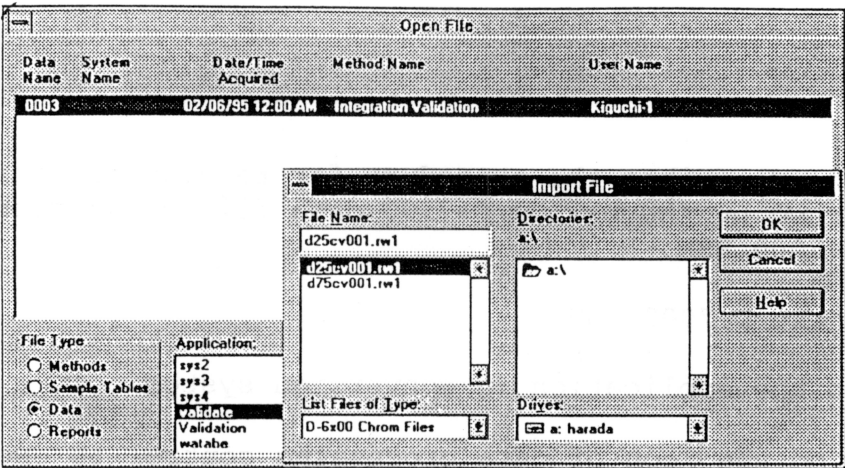

Fig. 5-2 Import File Screen
- (4) Set the FD in which the chromato-data files after conversion are saved into the floppy disk drive.
- (5) Click on the Import button in "Open File."
- (6) The Import File screen shown in Fig. 5-2 appears. So set the drive name to "a:."